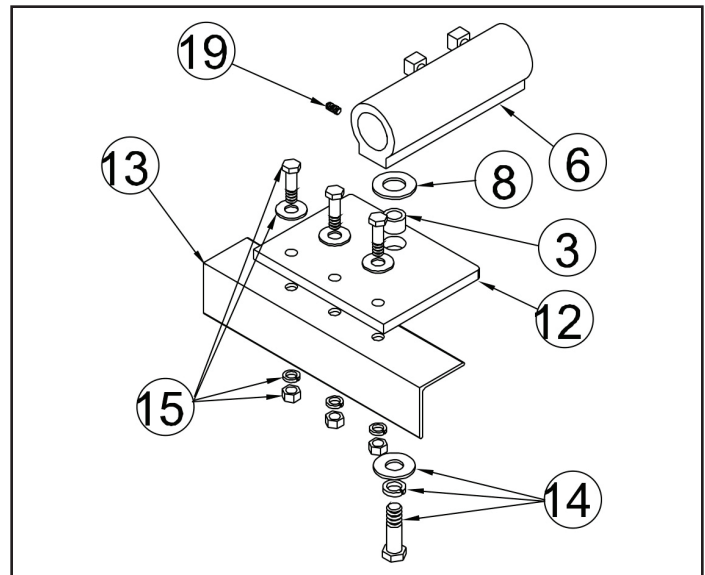

Figure 6. Gate Plate Installation
See Figure 6. Angle iron (not supplied) (13) should be welded to the gate prior to this step. Attach the gate plate (12) to the angle iron using 3/8 bolts, flat washers, lock washers and hex nuts (15). Slide a 1/2-13 x 1 1/4" bolt, 1/2" lock washer, 1/2" flat washer (14), and a black spacer (3) through the gate plate. Place a nylon washer (8) over the opening in the gate plate. Thread the bolt into the hole in the gate clamp (6) and tighten carefully. **Do not overtighten!** Tighten set screw (19) to further lock hex bolt (14) in place.